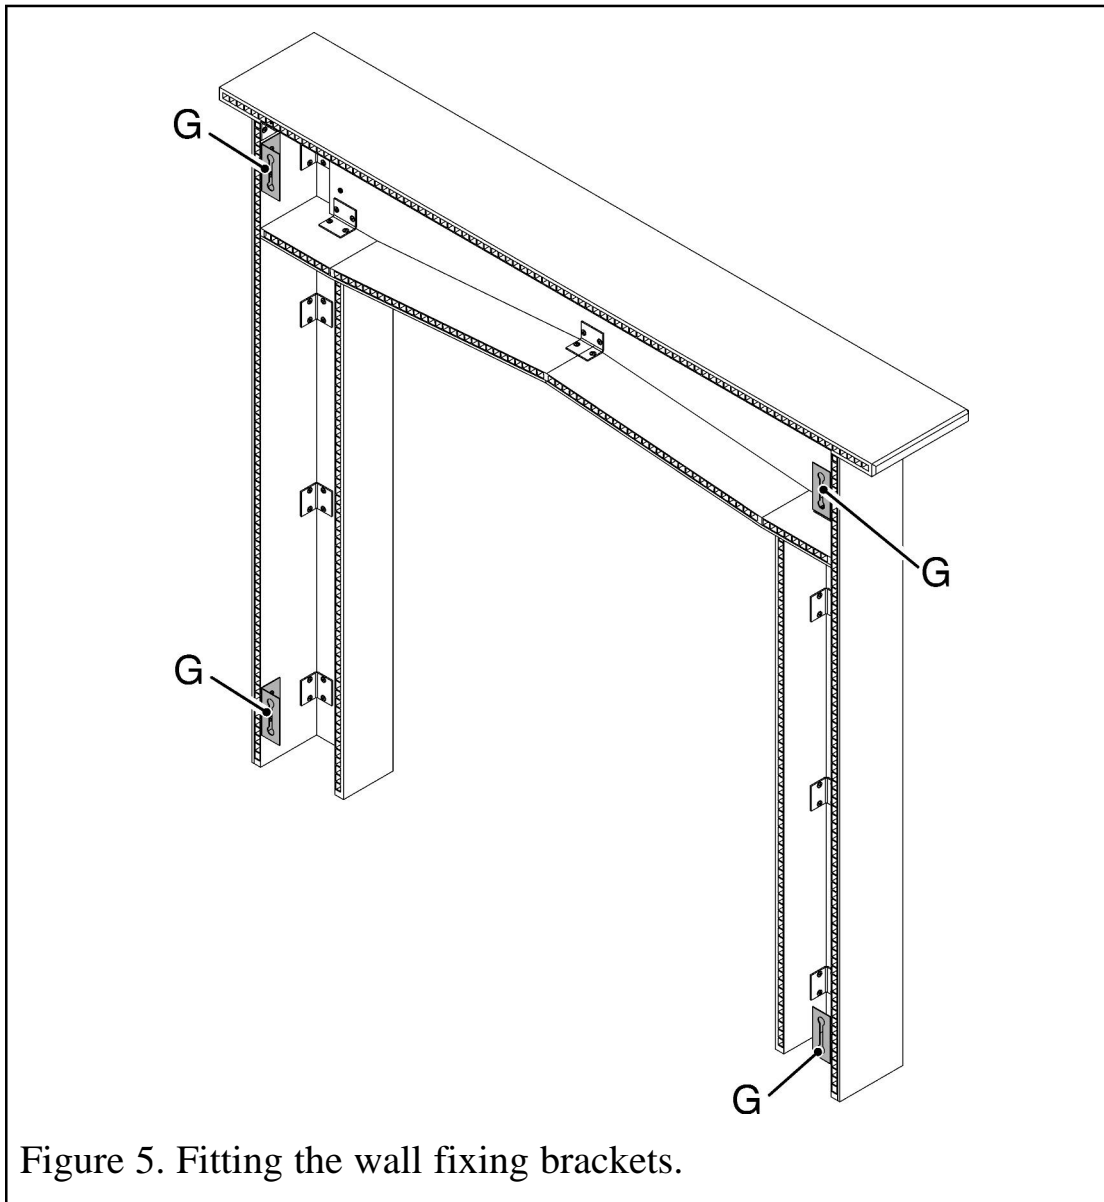

Figure 5. Fitting the wall fixing brackets.
There are pilot holes at the top and bottom sides of the legs (A). Place wall fixing brackets (G) as in figure 5 so that the pilot holes are in line with those of the wall brackets. Secure in place using eight screws (F).